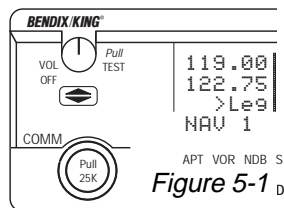

Figure 5-1
1. Use the left outer knob to select the desired number of megahertz between 118 and 136. In figure 5-1, the frequency 122.90 MHz is desired.